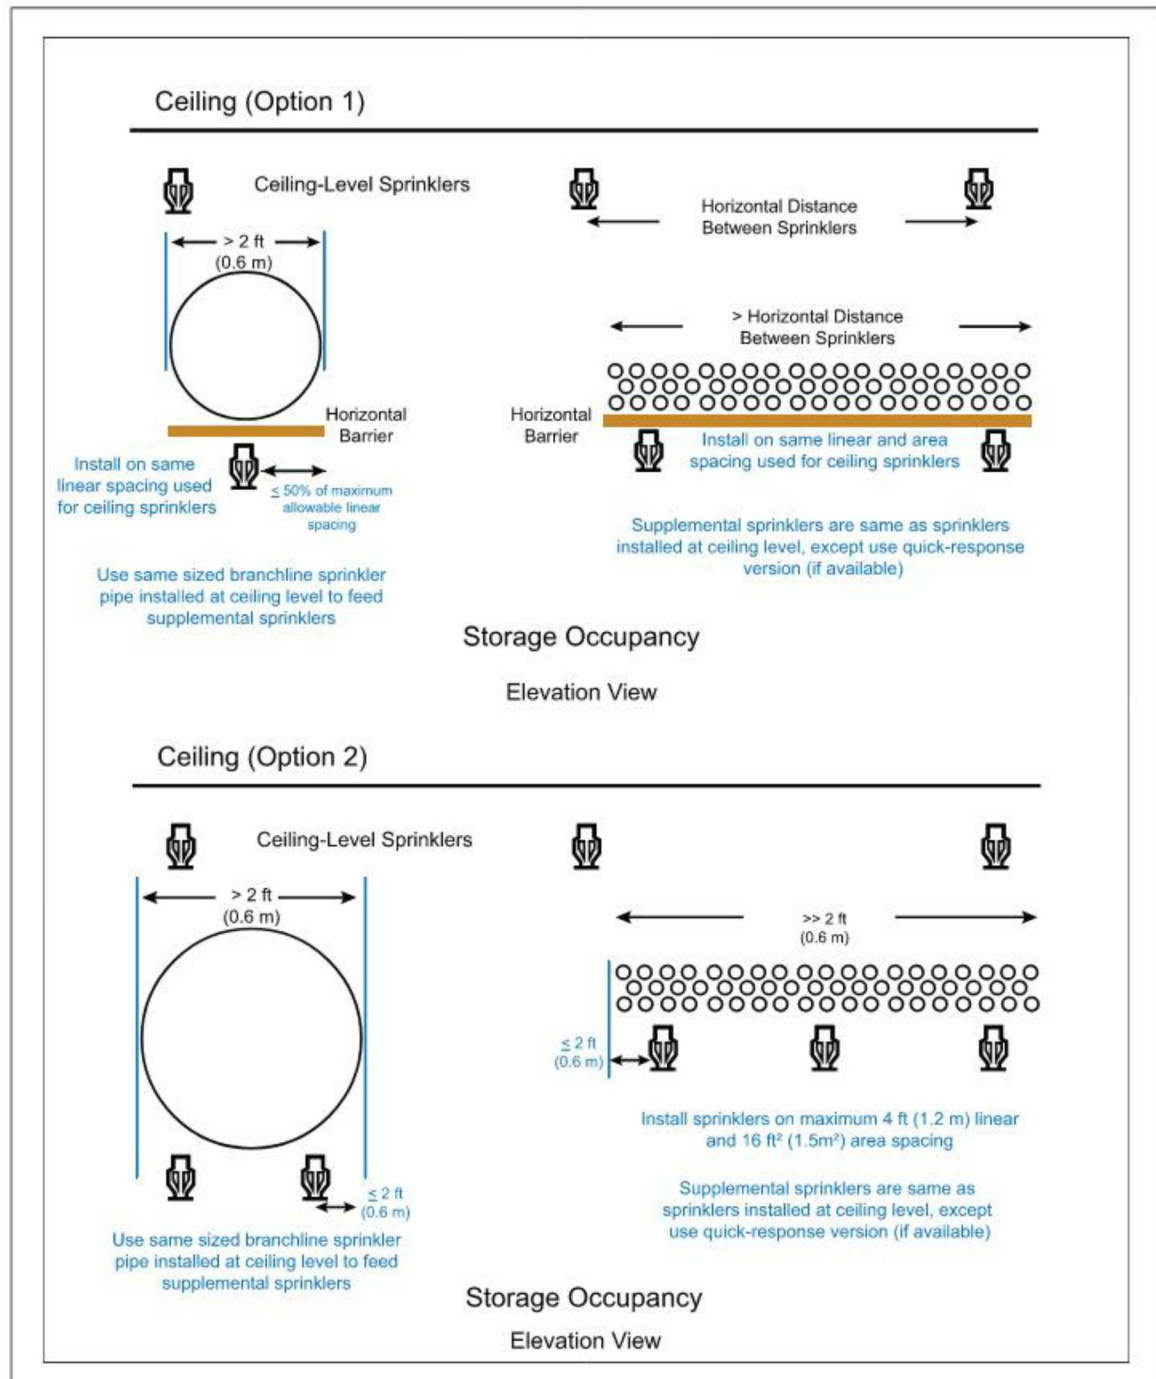

Fig. 2.5.4.5.5.3. Supplemental ceiling-level sprinklers installed below non-flat or non-solid, individual obstructions over 2 ft (0.6 m) wide
2.5.4.5.5.4 For non-flat or non-solid, grouped objects over 2 ft (0.6 m) wide, install supplemental sprinklers under the grouped objects in accordance with Figure 2.5.4.5.5.4.